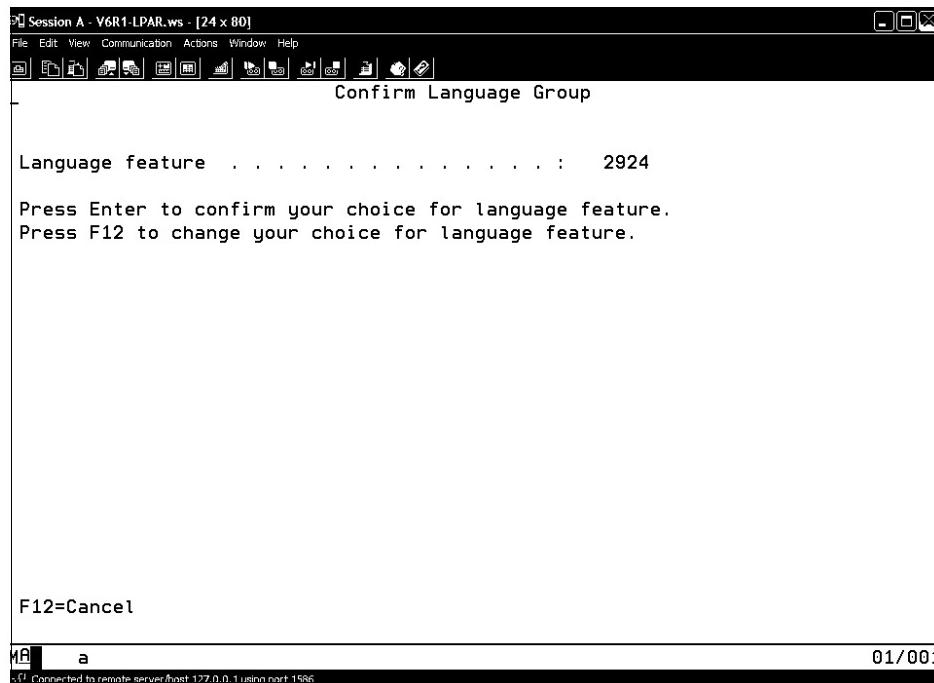

Figure 7-49 Confirm Language setup
5. Depending on the native language, a selection can be made in the following screen as shown in Figure 7-49 on page 294.